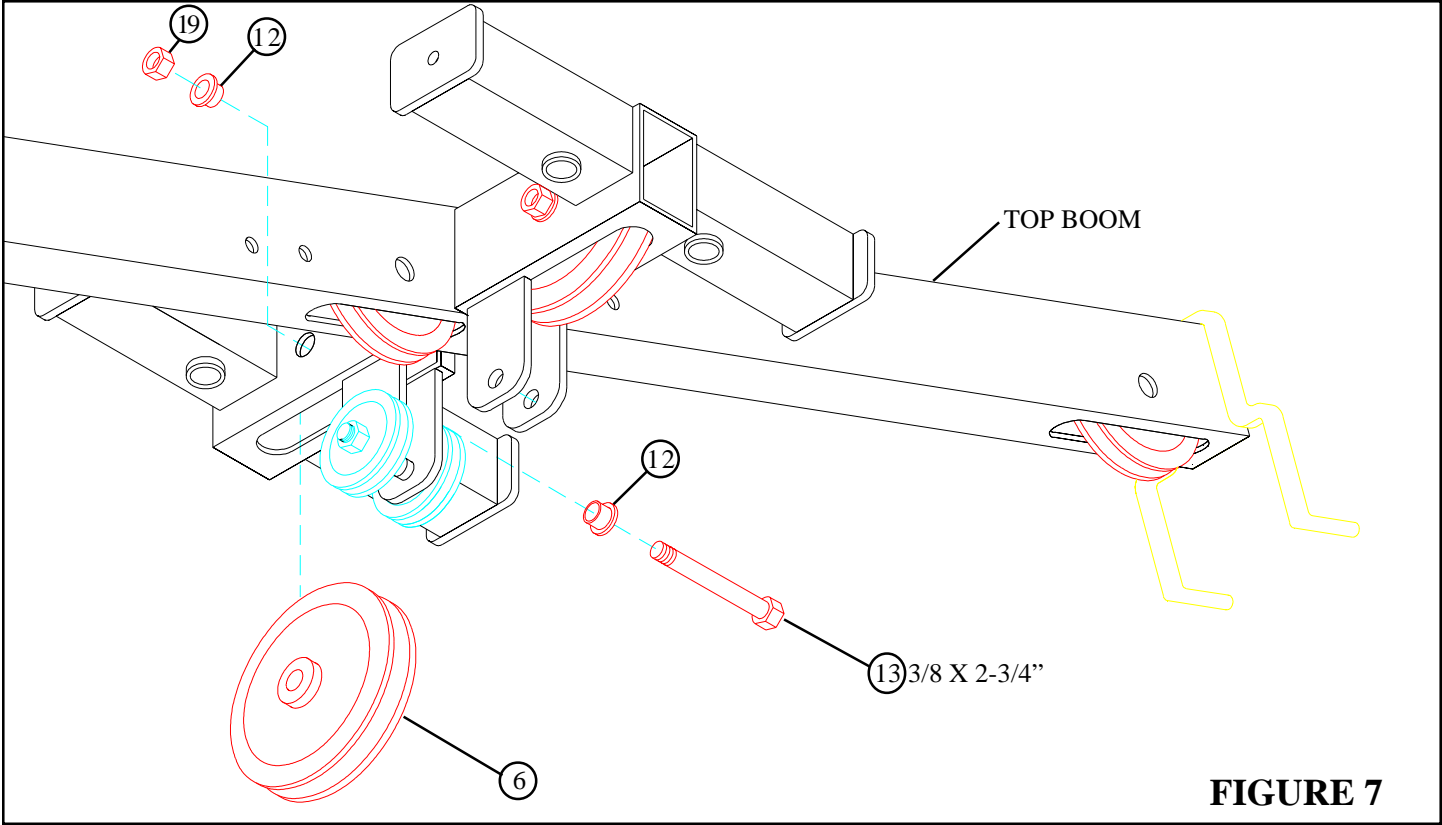

FIGURE 7
- **LOOSELY** assemble one 4-1/2" PULLEY (6) to the TOP BOOM using one 3/8 X 2-3/4" BOLT (13), two 3/8" FLANGE SPACERS (12), and one 3/8" LOCK NUT (19). See FIGURE 7.